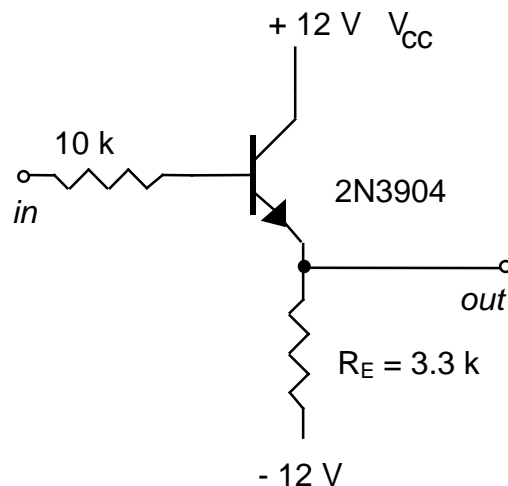

Figure 4-4
* Using the ± 12 Volt power supply that is built into your prototyping board, wire up an NPN transistor as an emitter follower, as shown in Figure 4-4.